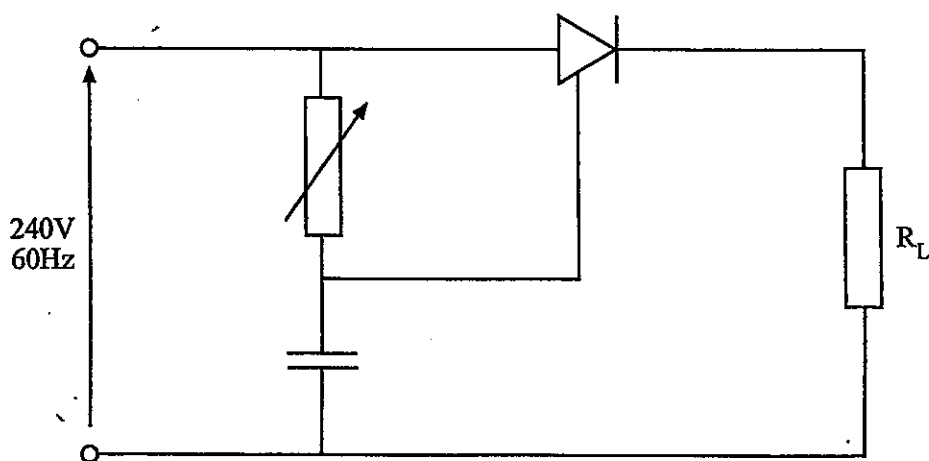

Fig Q9
- (c) the transformer efficiency; (2)
- (d) the power supplied to the load. (2)
- Sketch a typical torque/speed characteristic showing the starting, running and pull out torque points; (4)
- Describe the changes occurring to the rotor e.m.f., speed and power factor during the starting period; (6)
- State the effects on the motor torque, speed, and current if the supply voltage falls by 10%. (6)
8. (a) Sketch a circuit diagram for a 3-ph, a.c brushless generator showing the principal components. (6)
- Describe the generator response to the starting of a large induction motor controlled by a direct-on-line starter. (6)
- Explain why automatic voltage regulation (A.V.R.) control of the generator is essential. (4)
9. (a) State the conditions necessary to turn-on and turn-off a silicon-controlled rectifier. (4)
- Describe the operation of the control circuit shown in Fig Q9. (8)
- 40°; (2)
- 150°. (2)